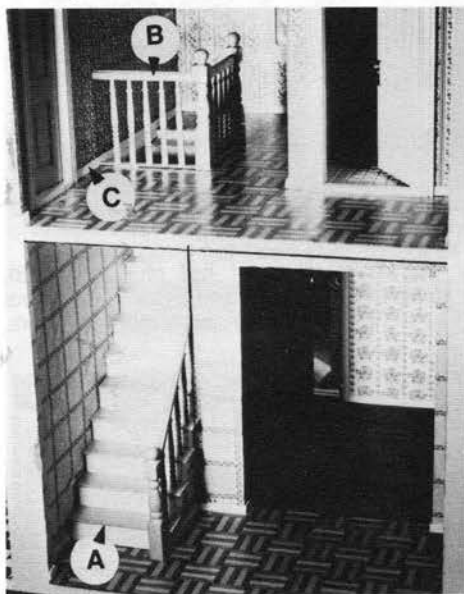

**Fig. 17**
STEP 15: Permanently install roof panel 33 onto the previous assembly. Panel 34 may now be tested for correct fit by holding in place with two pieces of tape. Later this panel will be hinged for access to the attic. (FIGURE 17).